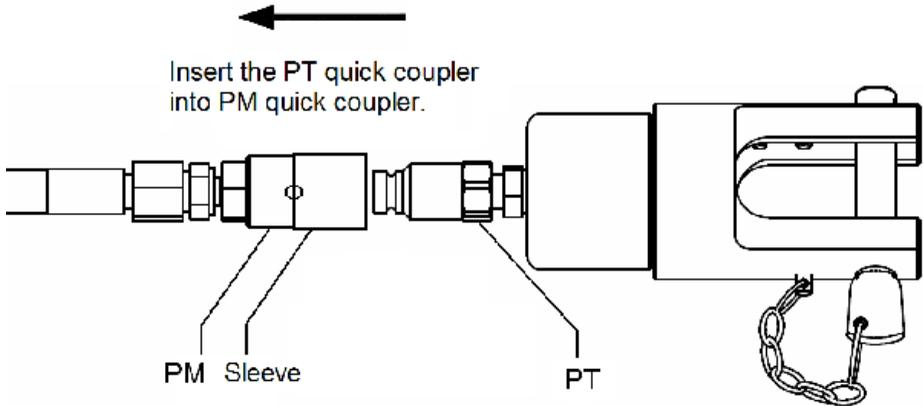

Fig. 6. Work with quick couplers
- Pull the sleeve as indicated on the Fig. 6. until the quick couplers are disconnected